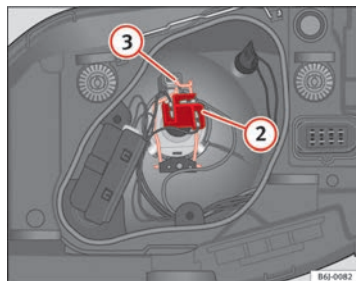

Fig. 145 Dipped beam/
- Remove connector ⇒ Fig. 145 ② from the bulb.
- Unclip the retainer spring ⇒ Fig. 145 ③ pressing inwards to the right.